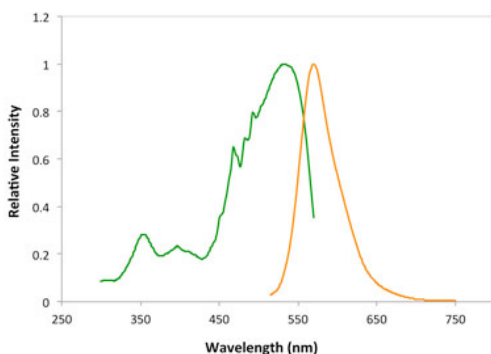
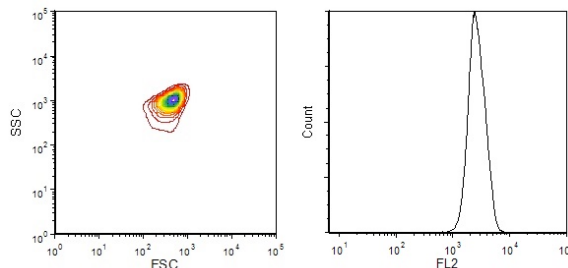

Figure 1. Excitation and emission spectra of Zepto™ Yellow Carboxyl Microspheres.
Figure 2. FSC-SSC plot and fluorescence histogram in FL2 of Zepto™ Yellow Carboxyl Microspheres on a flow cytometer.
The excitation and emission spectra are illustrated in Figure 1. They are a suitable for flow cytometry-based assays. Their Forward Scatter (FSC) vs. Side Scatter (SSC) plot and fluorescence histogram in FL2 (488 nm excitation; 590 nm emission) on a typical flow cytometer are illustrated in Figure 2.
1. Gate on the single population of microspheres on FSC vs. SSC plot (refer to Figure 2)